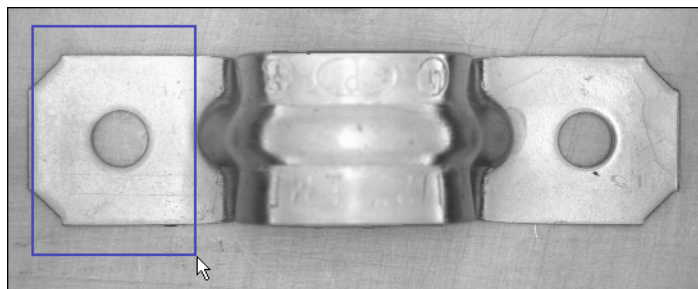

Figure 4-3. Selecting the First Search Area
12. With the **Rectangle Tool**, draw an ROI around the left side of the bracket, as shown in Figure 4-3. Be sure that the region you draw is larger than the template image and big enough to encompass all possible locations of the template in the other images you analyze.